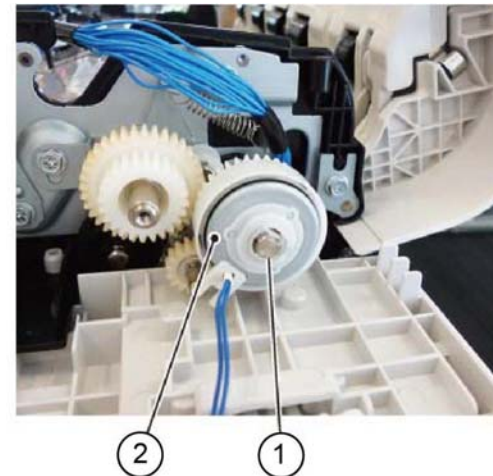

Figure 3 T/A clutch removal
8. Remove the DADF T/A clutch, Figure 3:
- a. Remove the E-clip (1).
- b. Remove the DADF T/A clutch (2).